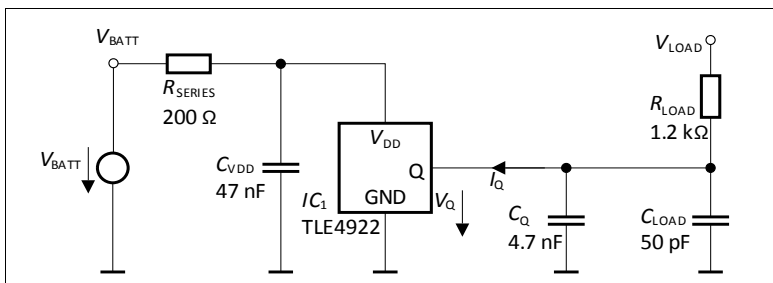

Figure 1-1 Application circuit TLE4922
**Figure 1-1** on first page outlines all needed external components to operate the DUT under application conditions. They are treated as inherent part of the DUT during component level EMC characterizations.